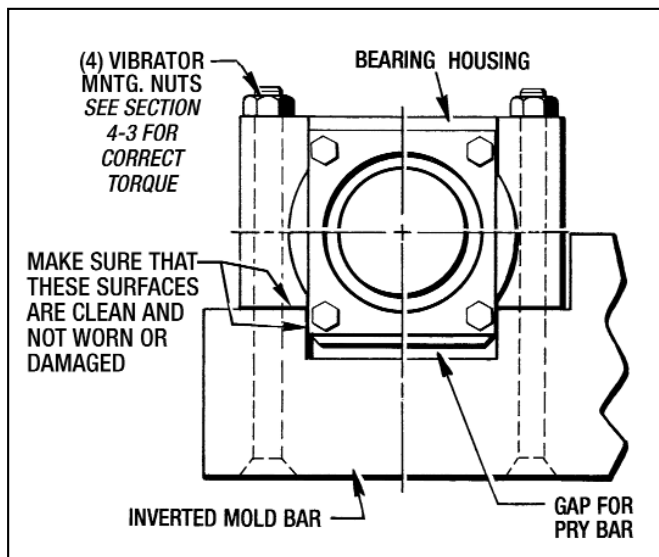

Figure 4.1 - Removing & Installing Vibrator Shafts
3. Break loose and remove the (2) Vibrator Mounting Bolts and Hex Nuts from each Bearing Housing.
4. Insert a pry bar into each gap and pry the Front Main Bearing Housing and the Rear Main Bearing Housing loose from the Mold Bar notches as shown in Figure 4.1.